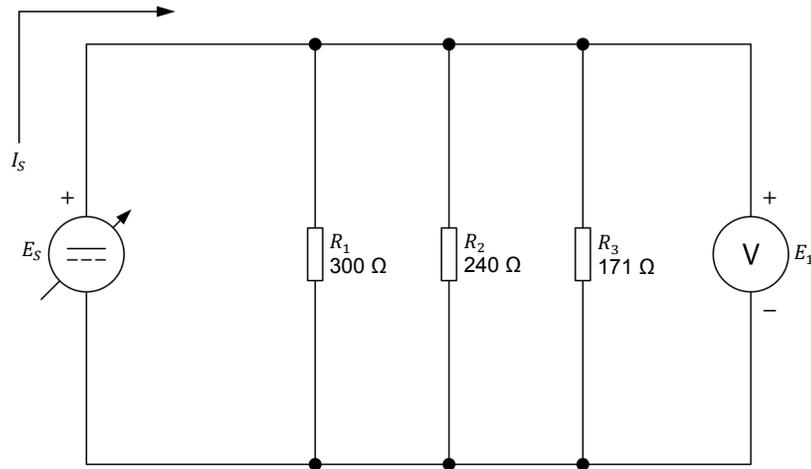

Figure 20. Determining the equivalent resistance of resistors connected in parallel.
10. Set up the parallel circuit shown in Figure 20. To obtain the resistor arrangement of Figure 20, make the necessary connection(s) and switch settings on the Resistive Load module.
11. Calculate the equivalent resistance ($R_{Eq.}$) of the parallel resistors R_1 , R_2 , and R_3 in Figure 20.
3. Refer to Figure 20. If resistors R_1 , R_2 , and R_3 each have a value of $100\ \Omega$, what is the equivalent resistance R_{Eq} ?